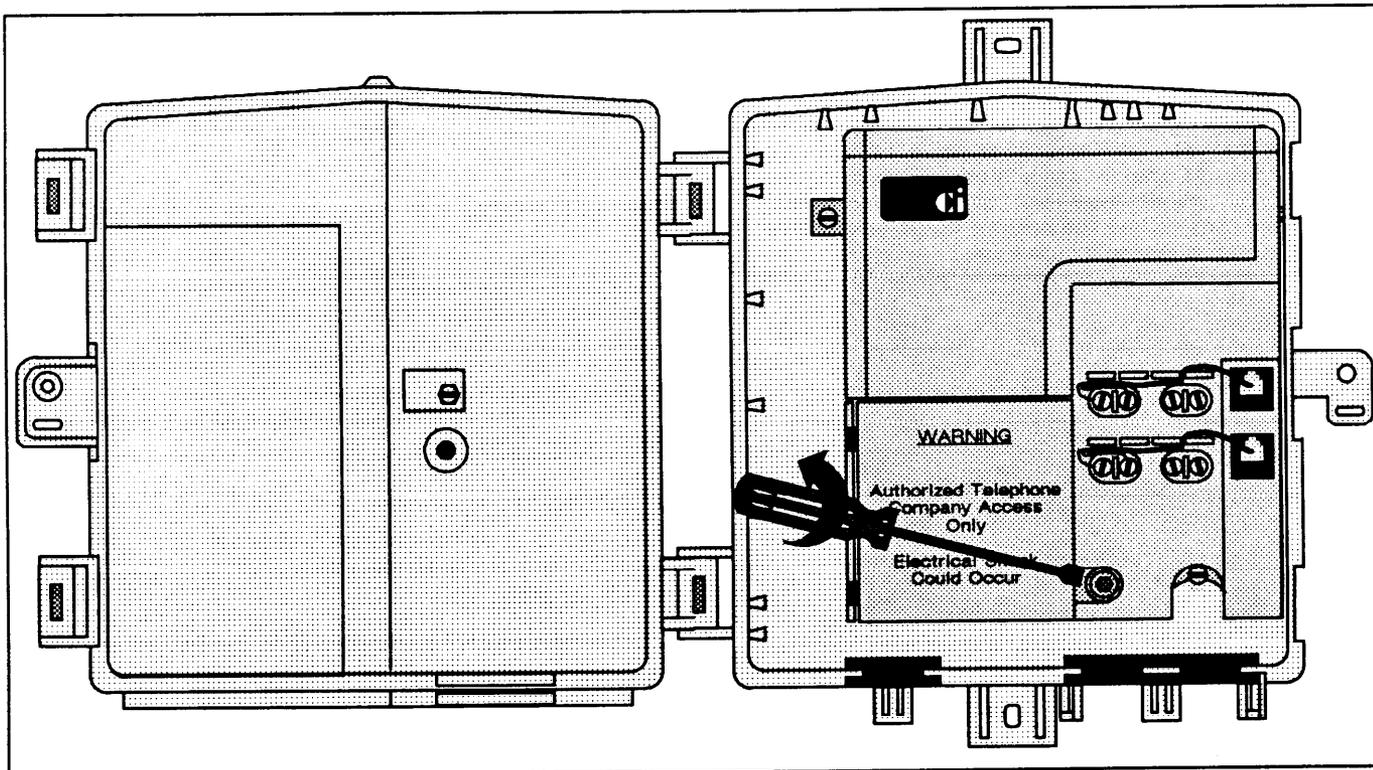

Figure 3. DDL102 in the Open Position
Using the 1/4-inch hex nut driver, open the TEL. CO. access cover by turning the hex screw counterclockwise until the enclosure cover can be opened. See Figure 3.
- (1) If not already opened at this time, open the internal TEL. CO. access cover by turning the 1/4-inch hex nut counter-clockwise. Refer to Figure 3.
- (2) Pull the 2W Digital Subscriber Line and ground cables through the left side opening. Allow extra cable inside the enclosure for a service loop (this will provide strain relief).
- (6) Close both the internal and external TEL. CO. access covers by reversing procedure in shown Figure 3.